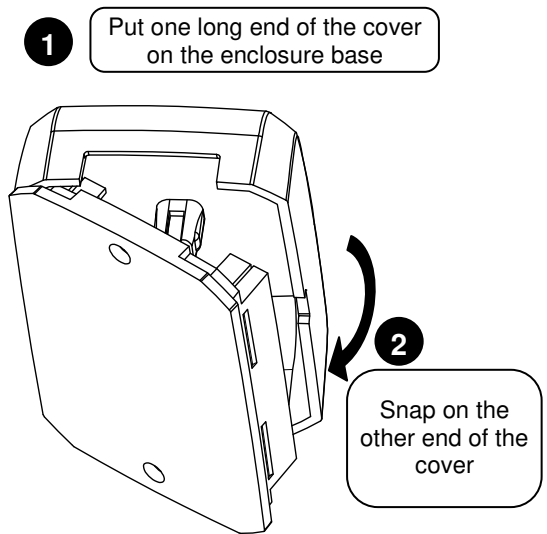

Figure 3. Closing S2000-AR2 Rev.02 Enclosure
4.3 Close the module enclosure as shown in Figure 3.